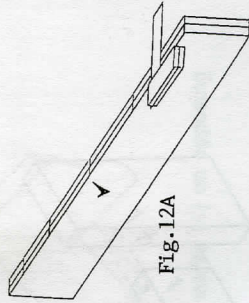

Fig. 12A
2. Place boards back to back as shown on Fig. 12A. Align and position.